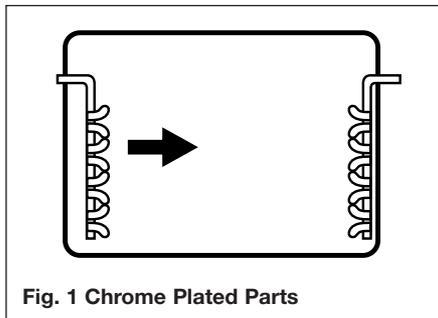

Fig. 1 Chrome Plated Parts
- Note: When positioning the pan support, ensure that the fingers are central to the burners (Fig 1 of the user instruction manual).
Chrome plated parts (Fig 1)
Do not use abrasives or polishes. Use a moist soap pad, eg; Brillo. Shelf runners can be removed for cleaning. Grasp the runners and slide out of the hanging holes as shown in fig 1.